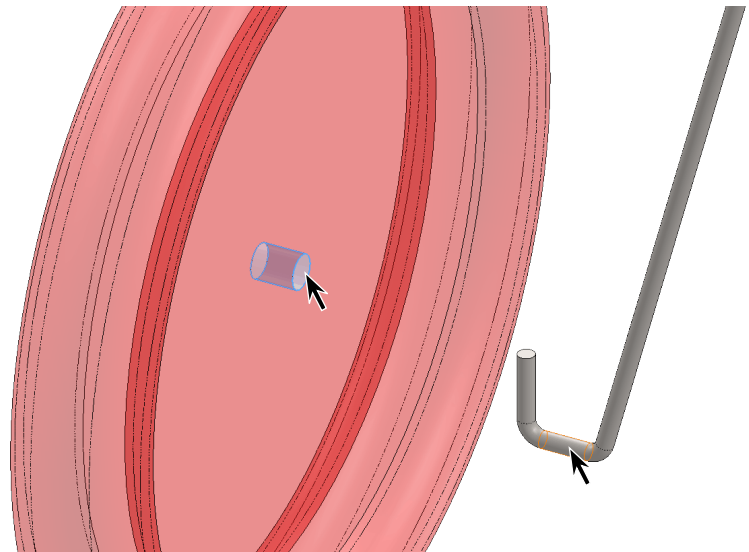

Fig. 9
Step 3. Click **cylindrical inside face of wheel hole and cylindrical face of horizontal section of wire**, **Fig. 9**.